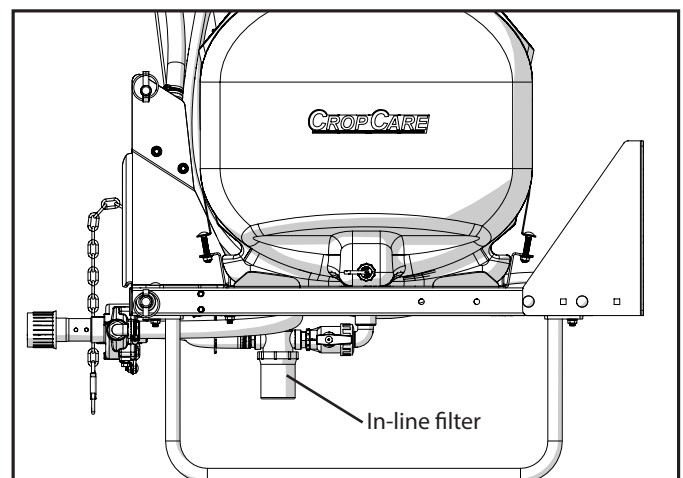
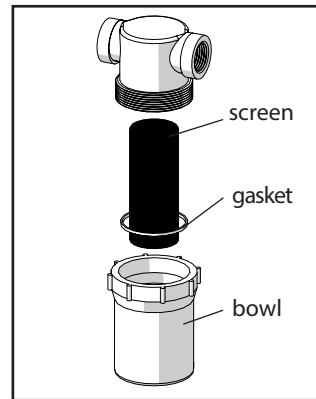

Figure 7: In-line filter
Figure 8: Filter
3. The in-line filter on the suction line should be taken out and rinsed (Figure 7). Note: Be careful not to lose the gasket in the filter bowl (Figure 8). The filter will leak without this gasket.